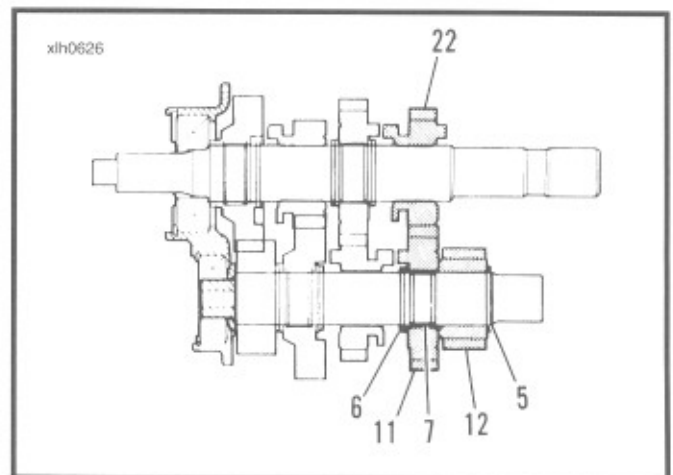

Figure 6-29.
See Figure 6-29. Using retaining ring pliers Part No. J5586 remove and discard retaining ring (5) next to countershaft 5th gear (12). Slide countershaft 5th (12), mainshaft 2nd (22) and countershaft 2nd (11) off end of shafts.